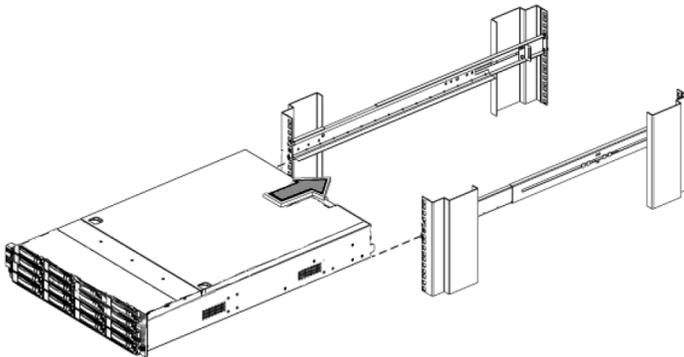

Figure 3: Insert the device into the rack
- Slide the ES NAS into position on the rails (Figures 3).